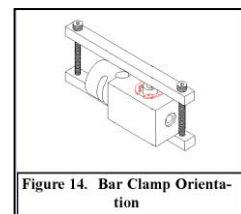

Figure 14. Bar Clamp Orientation
To install the Snap Ring, place a 10-32 x 1.0 SHCS into the insert (20), then use a small Bar Clamp (with a soft protective material between the clamp and Wet Head), to compress the components as figure 14 shows. When the components are compressed and the snap ring groove is accessible, install the Snap Ring. Be sure the Snap Ring is securely installed before removing the bar clamp. When the clamp is removed, install the Barb Fitting (10).